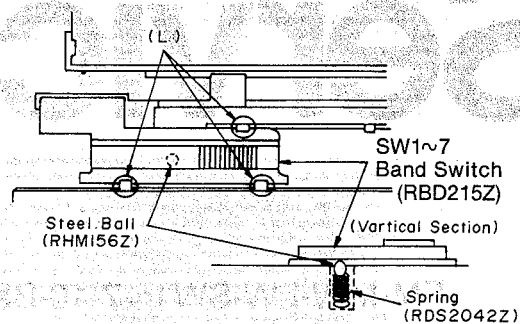

Fig. 15
*5 Remove SW1~7 Band Switch Knob (RBD215Z) by removing 3 ribs of the chassis as shown in Fig. 15. At this time, be careful not to loose the steel ball (RHM156Z) and the spring (RDS2042Z).